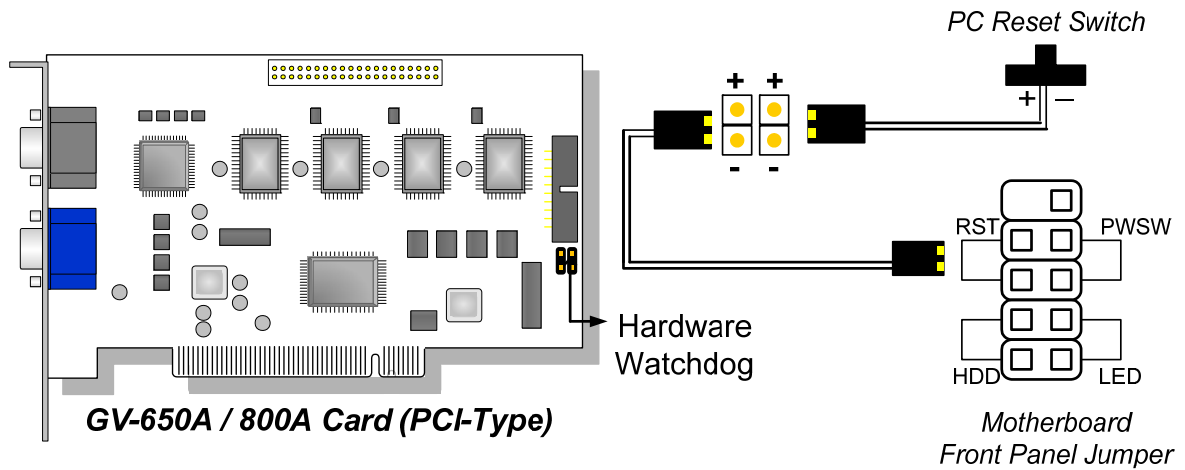

Figure 1-28
- **Hardware Watchdog Connection:** Connect the supplied Hardware Watchdog Jump Wire to the Master Card only (Figure 1-28).